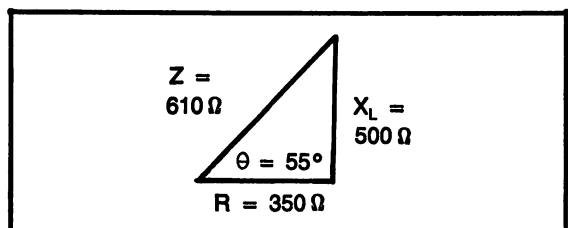

Fig. 14-2. Impedance triangle for sample problem 14-7.
Step 1. Impedance triangle, Fig. 14-2.